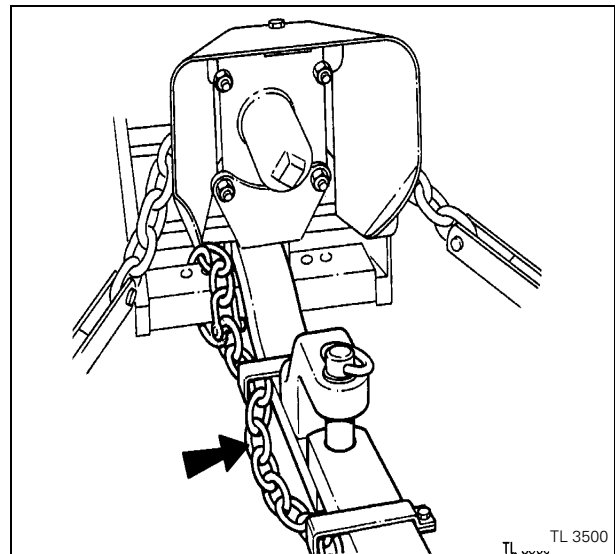

Fig. 22
- A safety chain will help control drawn equipment should it be accidentally separated from the drawbar while transporting. Using the appropriate adaptor parts, attach the chain to the tractor drawbar support or other specified anchor location. Provide only enough slack in the chain to permit turning. See your Massey Ferguson Dealer for a chain with a strength rating equal to, or greater than the gross weight of the towed machine (Fig. 22).
- Make sure any towed implements are equipped with a safety chain linking tractor and implement (Fig. 22).